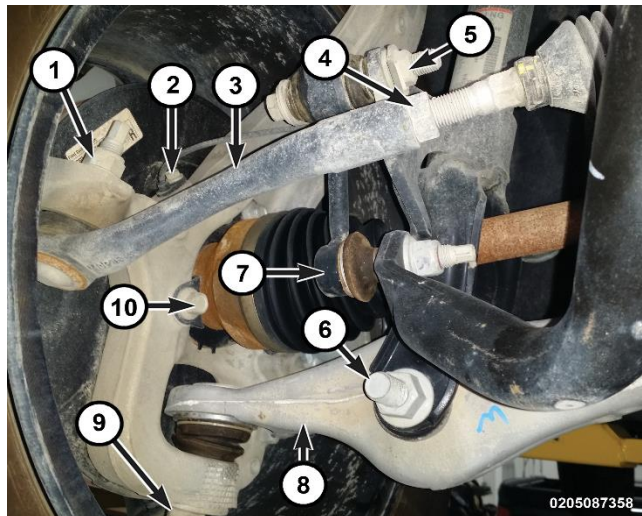

Figure 23 – Clevis Bolt
45. Remove the clevis to lower control arm bolt/nut (6) (Figure 23).